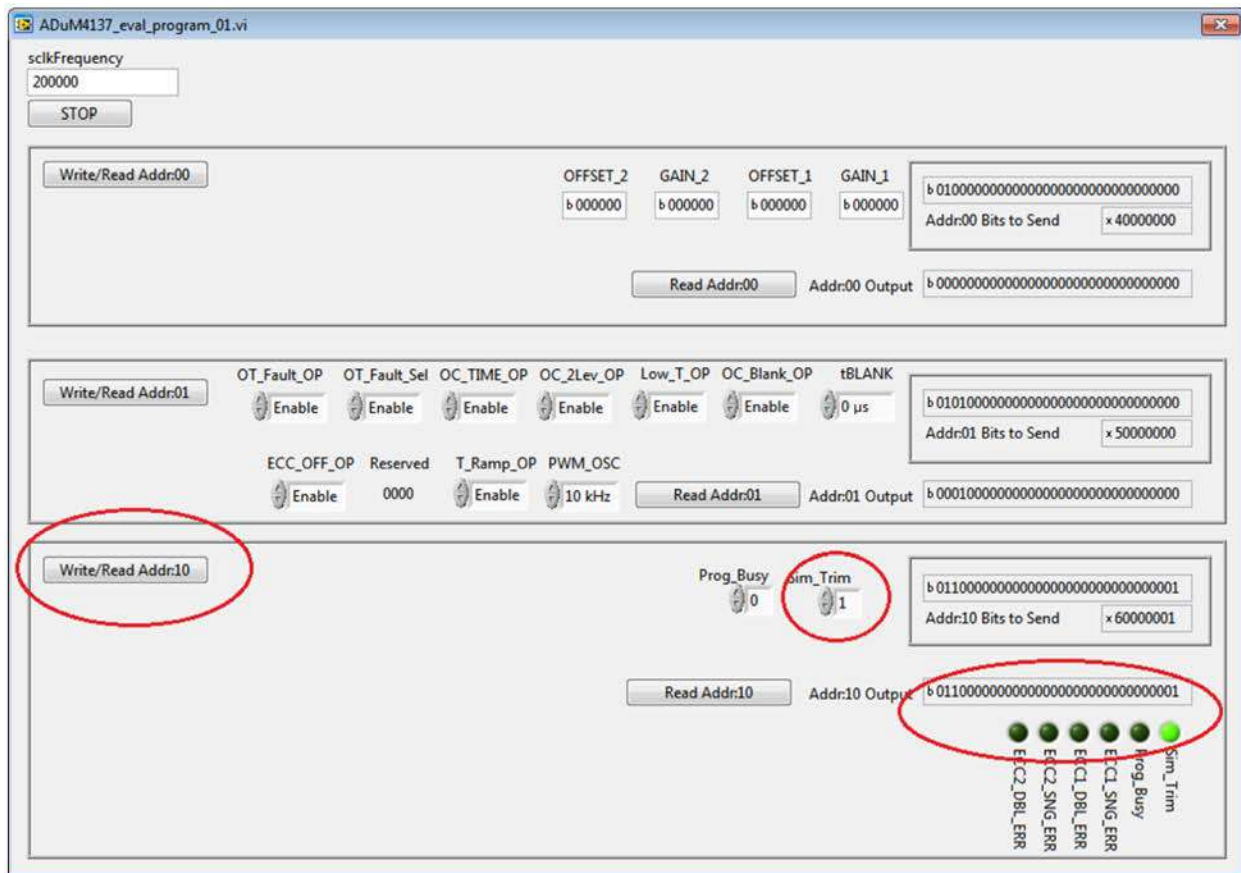

Figure 12. Setting the SIM_TRIM Bit
1. Set the SIM_TRIM bit by typing 1 in the **Sim_Trim** box, and click **Write/Read Addr:10**. This setting results in the green **Sim_Trim** indicator lighting up (see Figure 12). When the SIM_TRIM bit is set to 1, the write commands to Register Address 00 or Register Address 01 affect the operation of the ADuM4137.